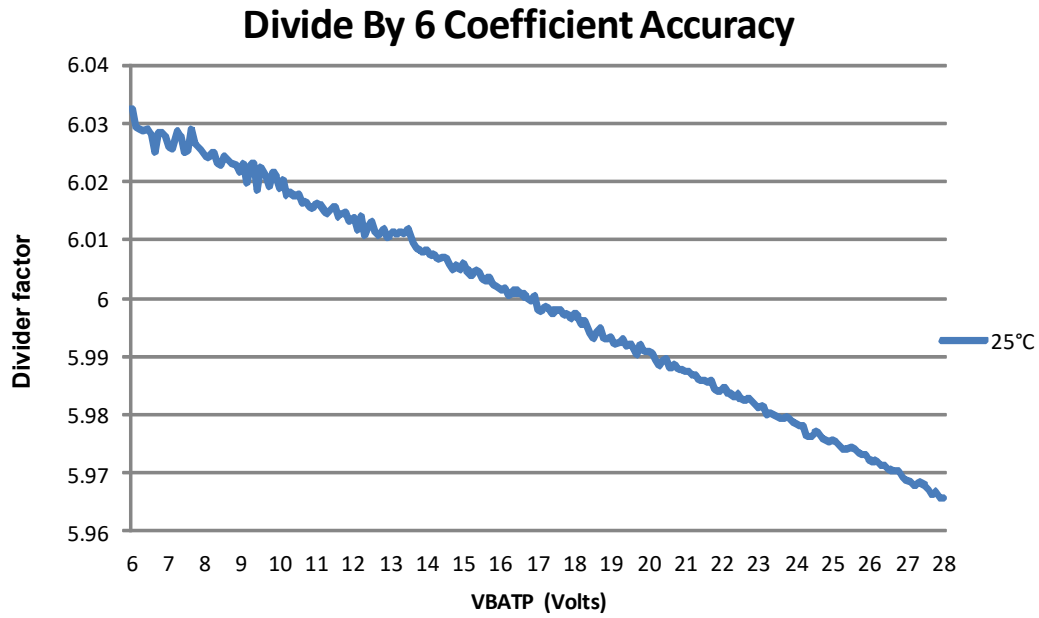

Figure 4. Divide by 6 coefficient accuracy
23. Calibration of divider ratio can be done at  $V_{BAT} = 12\text{ V}$ ,  $25\text{ }^{\circ}\text{C}$  to achieve a higher accuracy. See Figure 4 for AMUX offset linearity waveform through the operating voltage range.